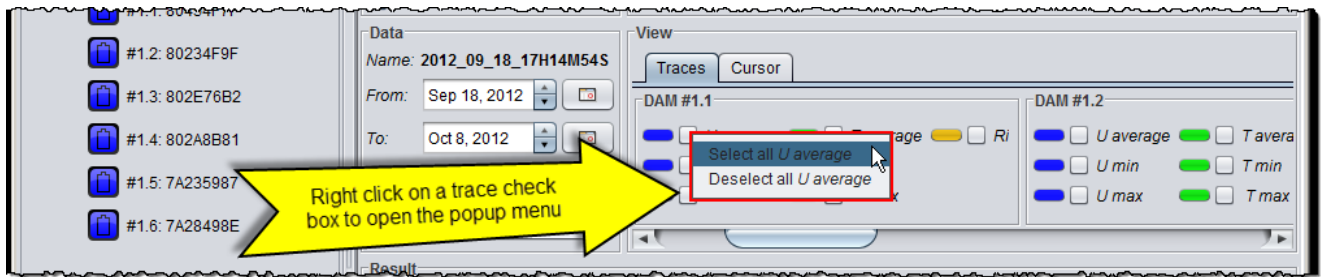

Figure 63: Multiple traces selection
1. Right click on the “U average” check box on any battery of the string as shown on Figure 63.